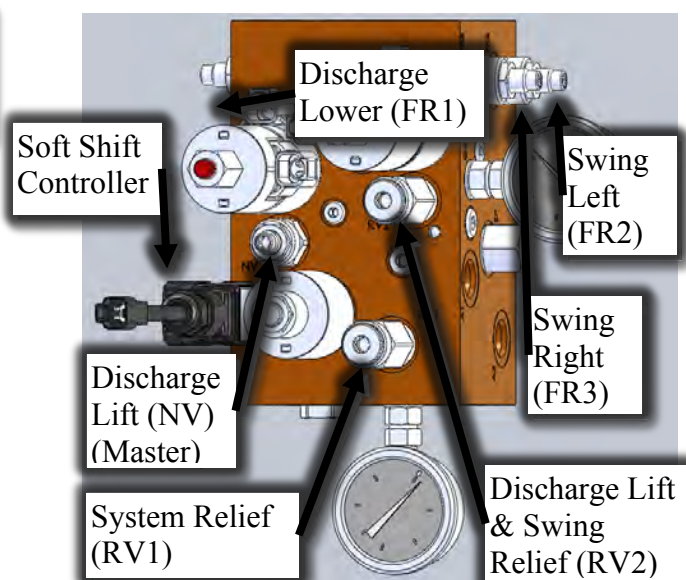

Figure 92 – Adjustment Screws and Manual Override for Discharge Cylinder Lift and Discharge Auger Swing Right.
Note: The discharge lift flow control (NV) is also the master flow control for both the discharge lift cylinder and swing motor (see Figure 92).
The manifold valve on the 7165 GM is equipped with an electronic soft shift controller (see Figures 92, 93, & 94) that slowly opens the solenoid valve controlling the hydraulic discharge auger motors eliminating the 'bangs' or hydraulic shocks associated with operating a hydraulic valve. The controller is set to jump to a preset 'step' voltage then 'ramp' up to maximum at a preset rate.